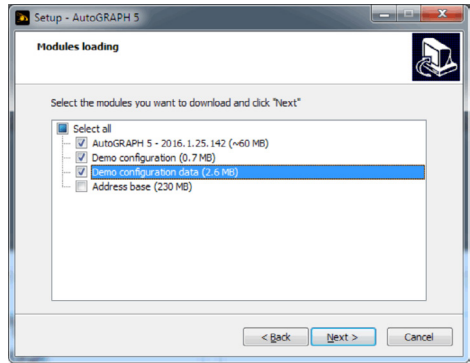

Fig. 4. Items for installation
- **Step 4.** Select modules which should be loaded and installed (Fig. 4).